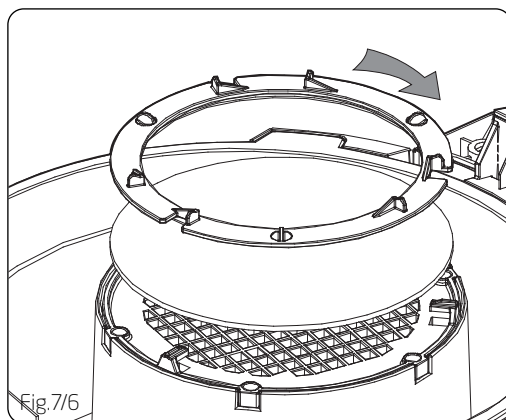

Fig.7/6
5. Replace with a new filter inside and turn the retaining disc clockwise to secure. (Fig.7/6)